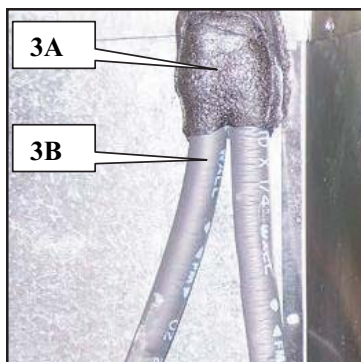

FIGURE 3
2. Wrap cork tape insulation around the barbed inlets (3A) and insulated beverage lines (3B) as shown (See Figure 3). **Installation of cork tape must be done properly to prevent condensation and temperature gain of circulating water.**